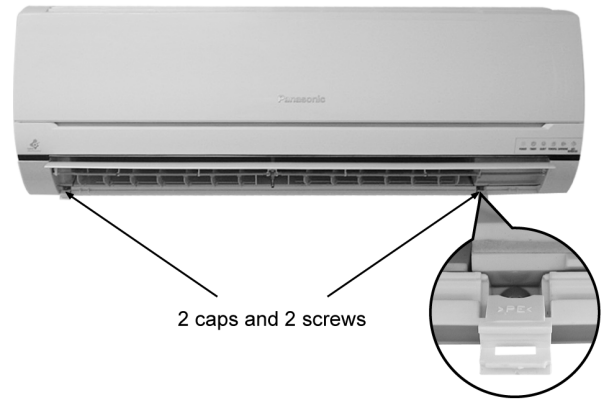

Fig. 1
- Remove the 2 caps and 2 screws at the bottom of the Front Grille. (Fig. 1)